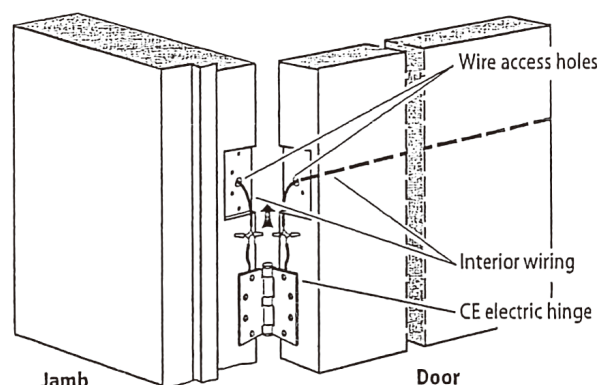

Figure 1- Hinge mounted on center position
- 2 De-burr wire access holes so that they are free from all burrs and sharp corners. See Figure 1.
- 6 Make the appropriate connections of the interior wiring to the hinge wiring. See Figure 1. See also "Notes on electric hinge wires".